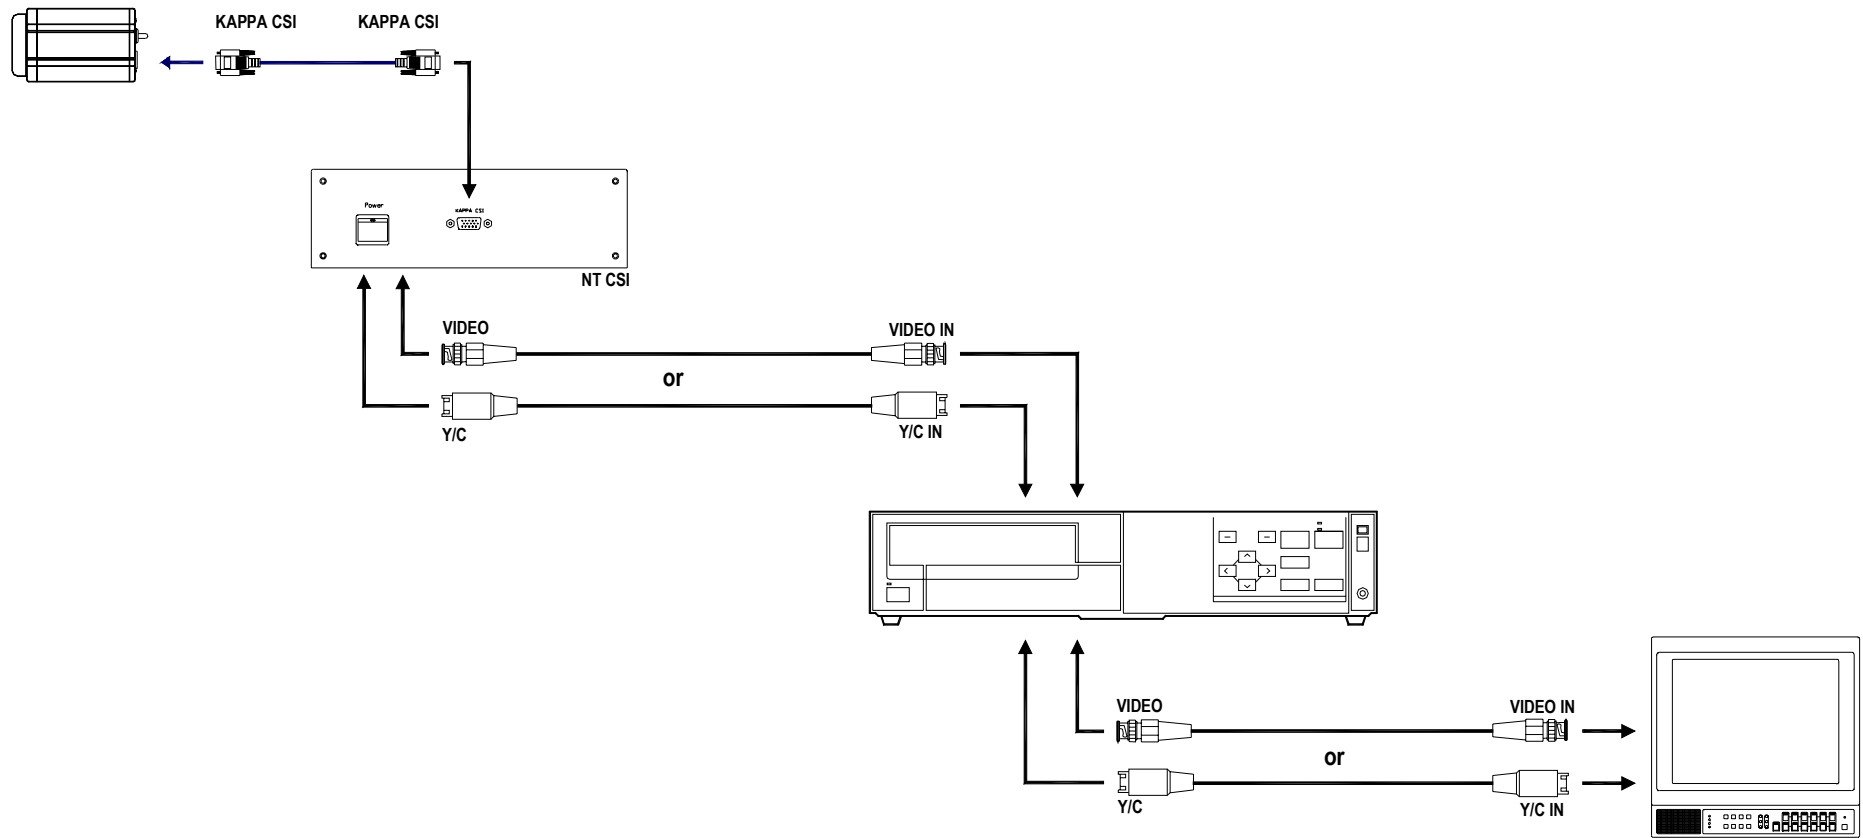

Fig. 2: CF 142, CF 143 and CF 144, Camera Power Supply NT CSI, Video Printer and Monitor
- Camera; camera power supply NT CSI; video cable; video printer; video cable; monitor (fig. 2).